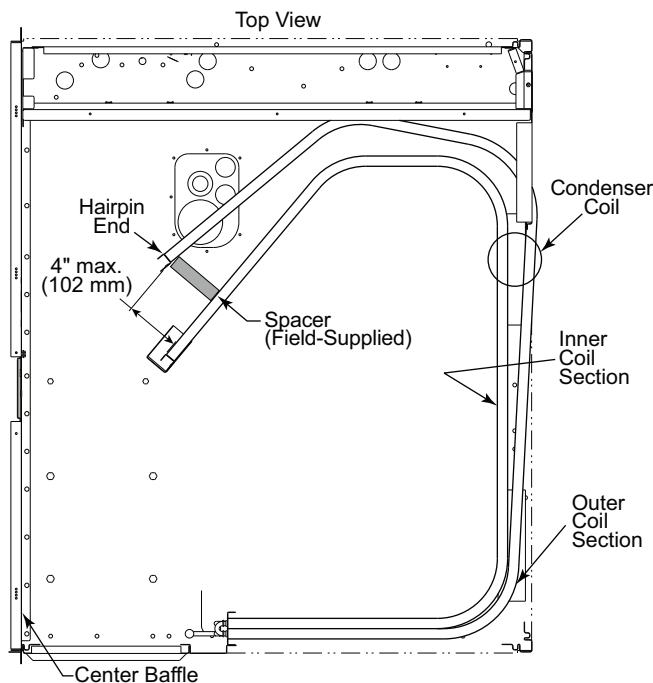

Fig. 17 — Separating Coil Sections
8. Insert a spacer (field-supplied) between the tube sheets to hold the coils apart. See Fig. 17.